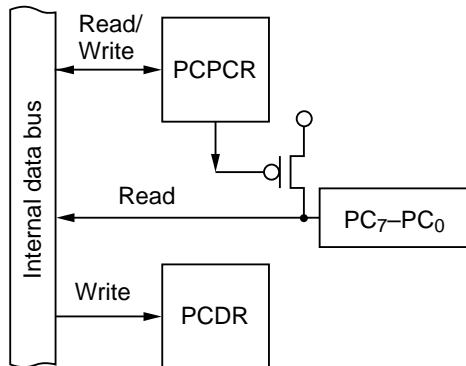

Figure 10-88 Input Port with Built-In Pull-Up Transistors (Mode 7)
(2) Input Port with Internal Pull-Up (Mode 7): Figure 10-88 shows a block diagram illustrating the general-purpose input function of port C using the built-in input pull-up transistors. Table 10-65 indicates register read/write data. Values written in the port C data register (PCDR) have no effect on general-purpose input lines. When read, PCDR returns the value at the pin. When a bit in the port C pull-up transistor control register (PCPCR) is set to 1, the corresponding PCDR bit always reads 1.